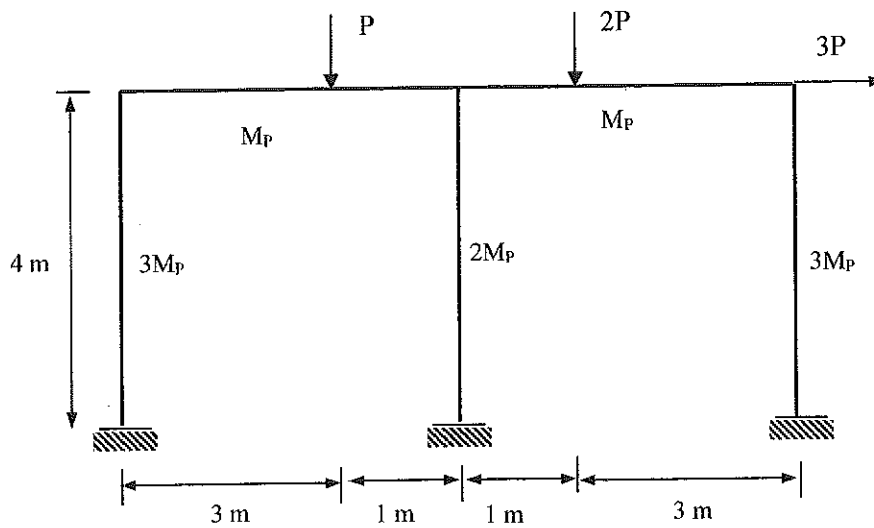

Figure Q6
- (ii) A two-bay frame structure is shown in Figure Q6. Dimensions and plastic moments of the columns and beam are given in the figure.